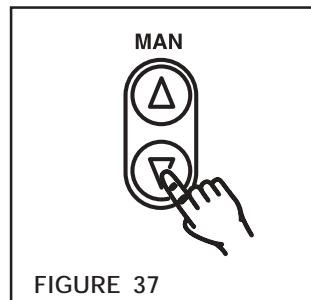

FIGURE 37
2. Press the **MAN**ual Key to set the percentage of output to be applied as **START LEVEL** (See Figure 37). The Tension Indicator will show the percentage of the output being applied as the **START LEVEL**.